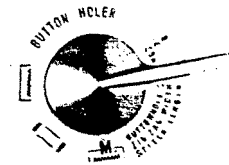

Fig. 26
5. Stop machine and raise needle to highest position, turn control knob A Fig. 26 to bar tack position and sew 4 or 5 stitches.
6. With needle at highest position turn control knob A Fig. 26 to right hand position and sew right side of buttonhole.